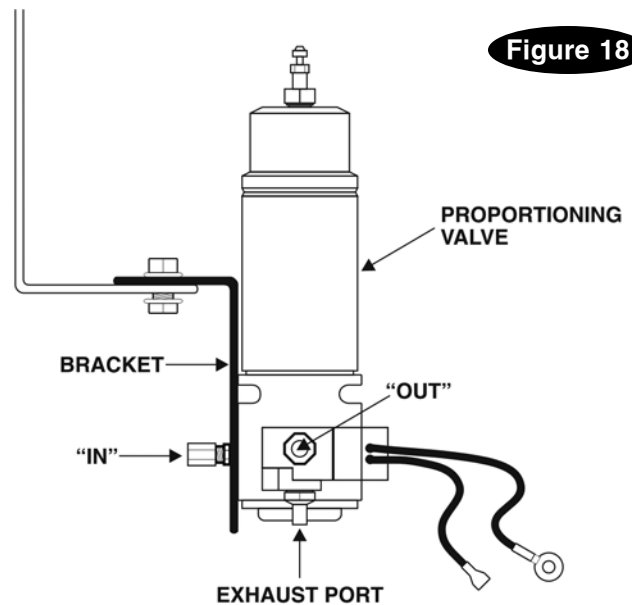

Figure 18
- If there is no air at the proportioning valve – check to confirm that the air line between the air compressor and the proportioning valve is connected to the correct fitting. It should run from the “in” fitting on the air compressor (Figure 17) to the “in” fitting on the proportioning valve (Figure 18).